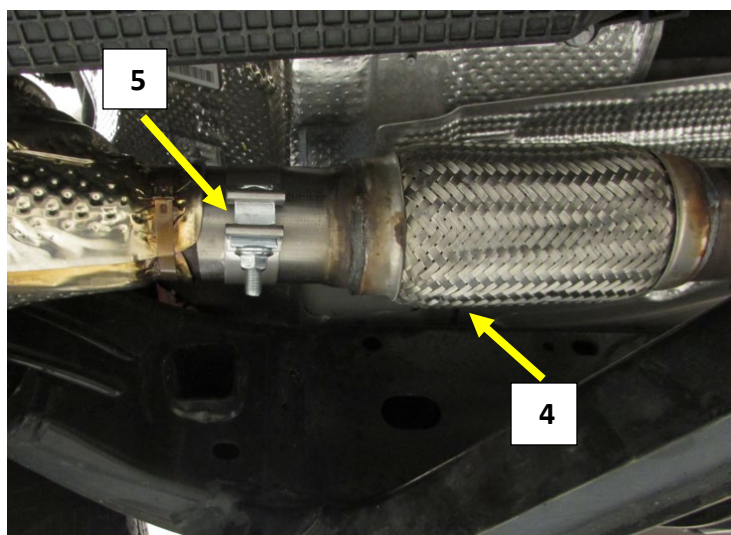

Figure.5
3. Install the 2.5" band clamp (5) on to the notched end of the inlet pipe-A at the flex . Fig.5
Note: The clamp is positioned behind the square notch and covers the small Z notches in the pipe. Fig.5
4. Install the Inlet pipe-A (4) on to the outlet of the catalytic converter, align the square notch with the Alignment pin. Fig.5